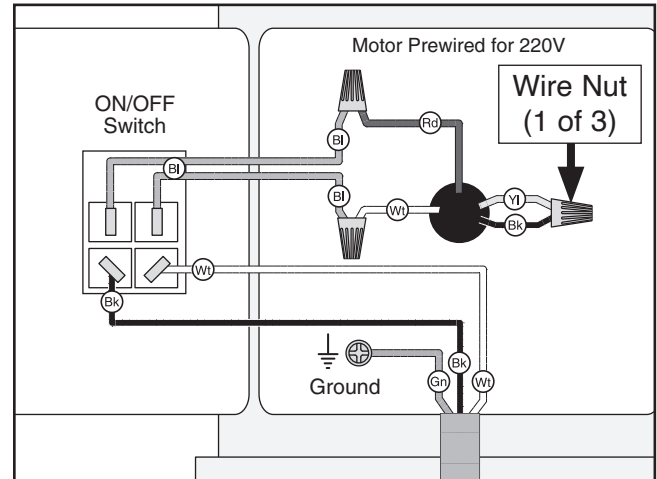

Figure 9. Motor prewired for 220V.
3. Loosen (3) wire nuts indicated in **Figure 9**.